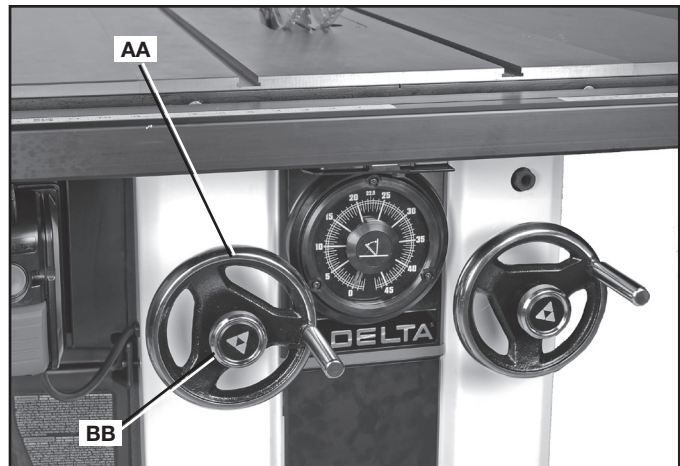

FIG. 21
Raise or lower the blade with the left handwheel (AA) Fig. 21. Before raising or lowering the blade, be sure to loosen the lock knob (BB) Fig. 21 by turning it counter-clockwise.
Tighten lock knob (BB) Fig. 21 to keep blade raised to your desired height. Only a small amount of force is required to lock the blade raising mechanism securely. Any added force merely puts unnecessary strain on the locking device.